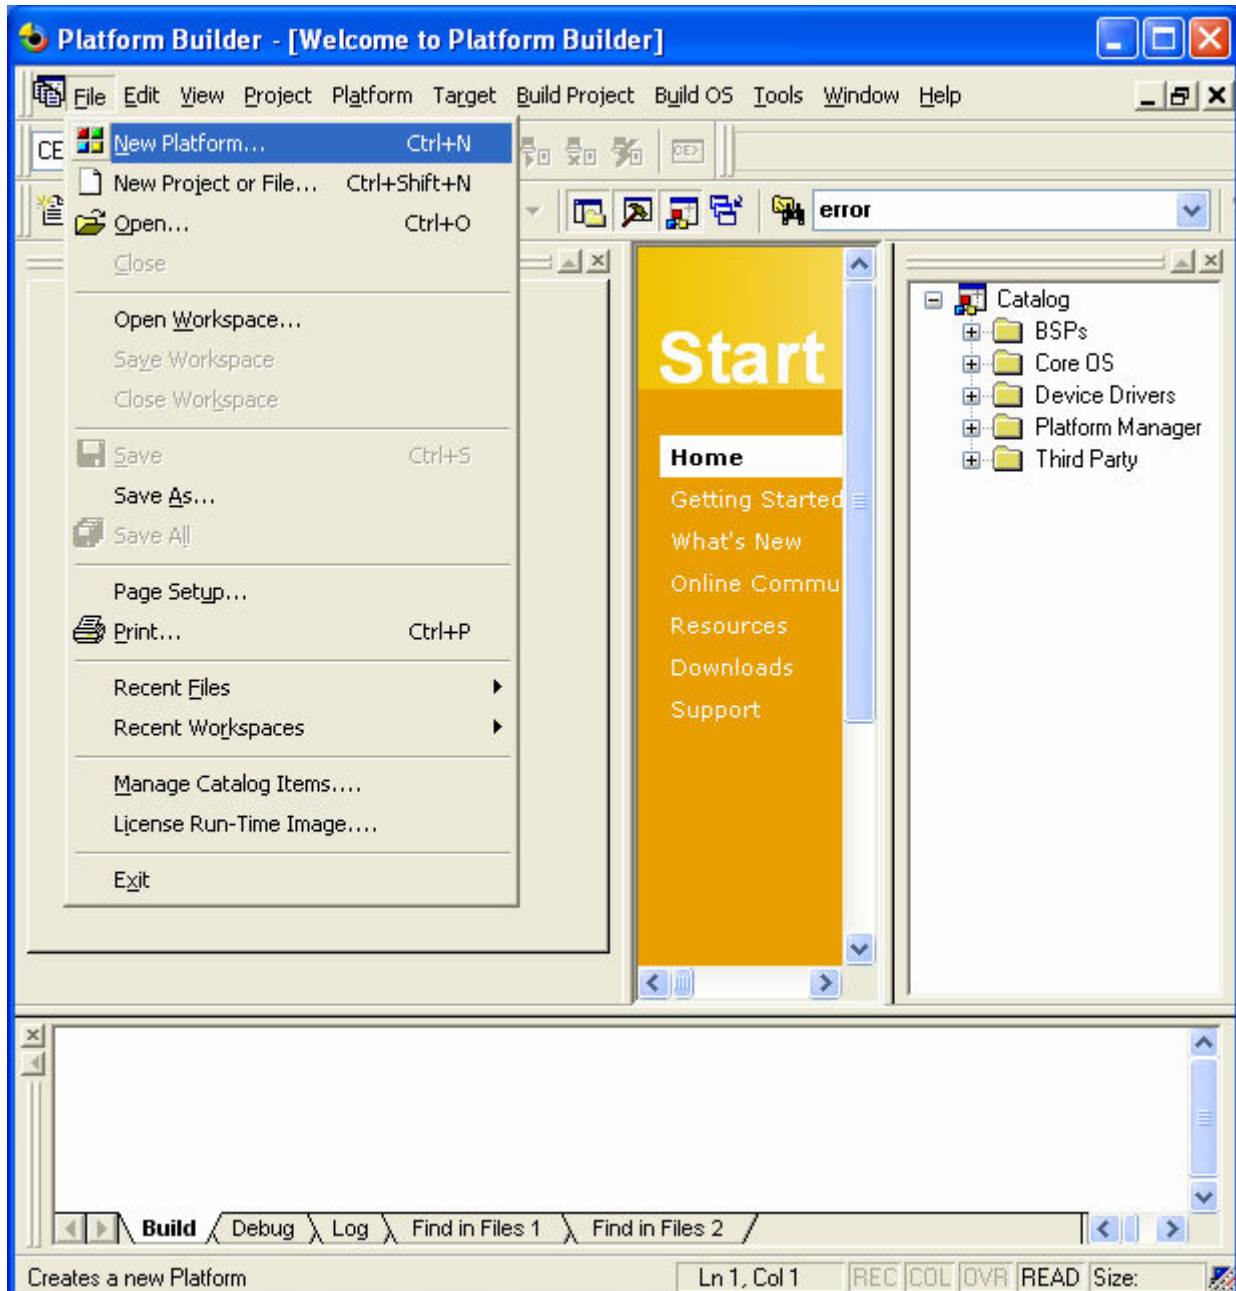

Figure 3-1 Creating New Platform
1. On the **File** menu in the **Platform Builder** window, click **New Platform...** as shown in figure 3-1.